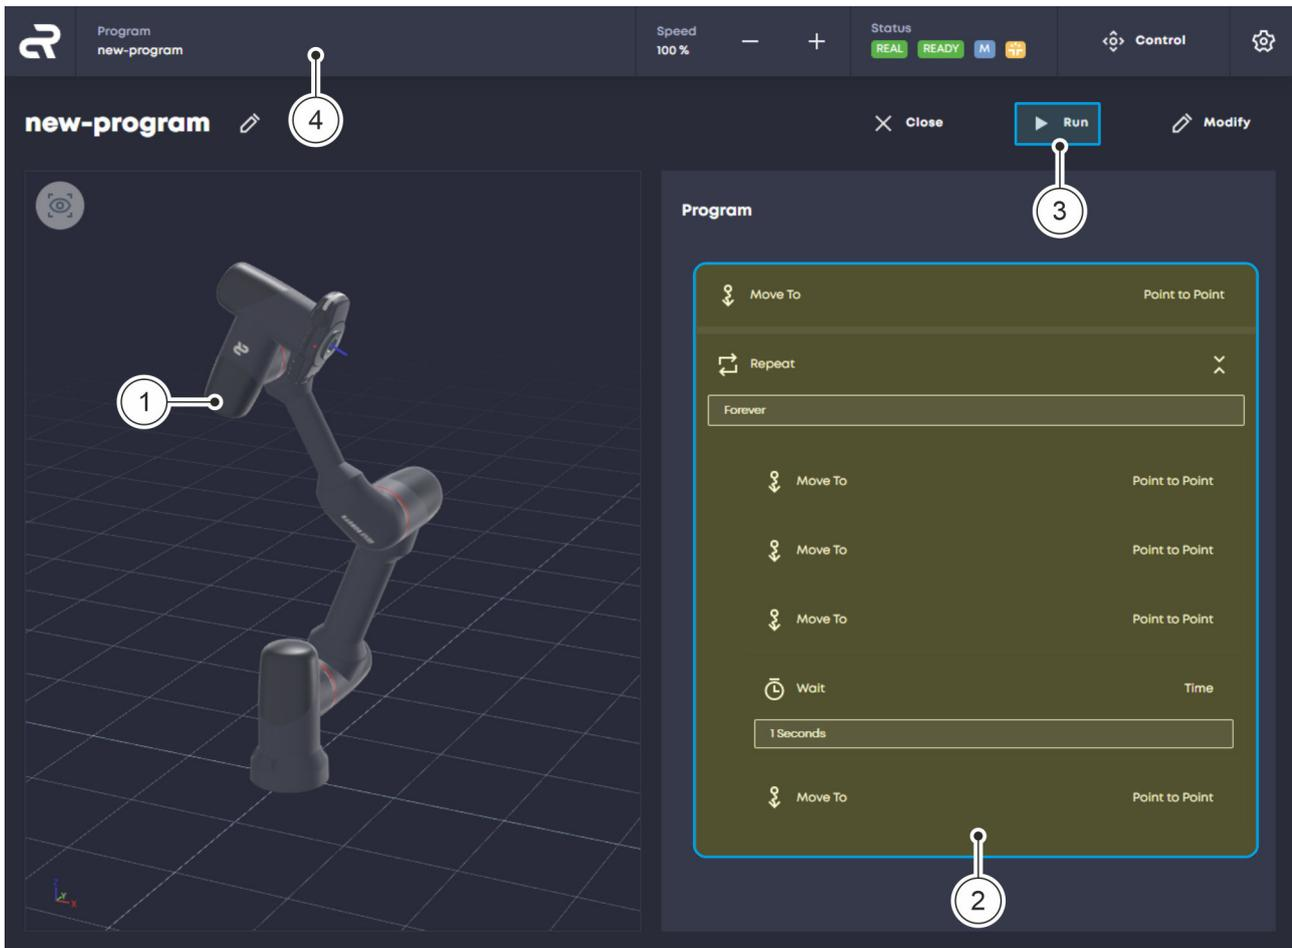

Fig. 29 Starting a program
- ▶ The 'Program' menu appears **Fig. 29**.
In the 'Program' menu, the program sequence is displayed as a series of individual command blocks **Fig. 29/②**.
03. To start the program, click the 'Run' button Fig. 29/③.
In the left-hand menu section, the movements are displayed using a virtual robot model Fig. 29/①.
The currently loaded program is displayed in the navigation bar at all times Fig. 29/④.